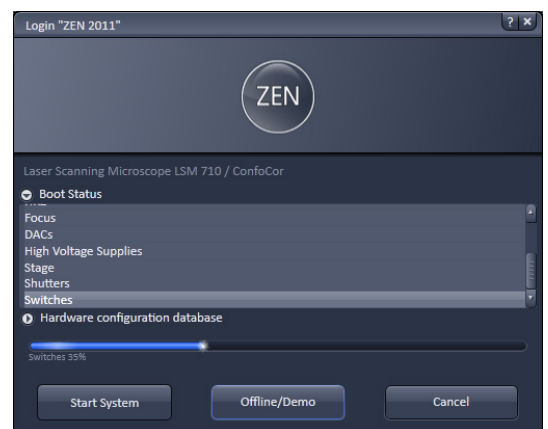

Fig. 10 Starting the ZEN software – The Login "ZEN" dialog with **Boot Status** field expanded and during the process of booting
- **Cancel** to abort the booting process and to leave the dialog. Note that the **Cancel** button will appear in the place of the **Image processing** button only if **Start System** or **Offline/Demo** was selected (Fig. 10).